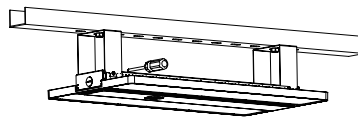

Figure 6
- Step2.** Assemble the lamp on the bracket and fix it with screws; **(Figure 6)**